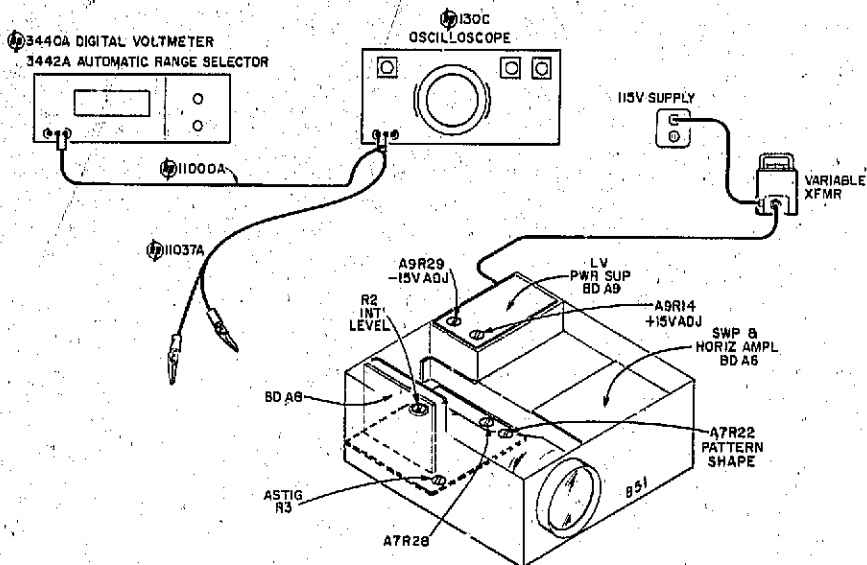

Figure 5-5. Low Voltage Power Supply, Check and Adjustment
b. Locate Low-Voltage Power Supply Board A9 (see Figure 5-5).
- Turn INTENSITY max cw, and adjust Int Level R2 (to right of CRT, see Figure 5-5) for 0.5 mA.
c. **Cathode and Post-Accelerator Voltages.** Using a dc voltmeter and voltage-divider probe, check voltages as shown in Table 5-11. Location of A8 board is shown in Figure 5-5.
5-49. ADJUSTMENT. If a sharp spot is not obtained, adjust FOCUS, Astig Adj R3, and Pattern Shape Adj A7R22 for a sharp spot. Then check that a sharp spot can be obtained as INTENSITY is turned through its range. See Figure 5-5 for location of Astig Adj R3 and Pattern Shape Adj A7R22.